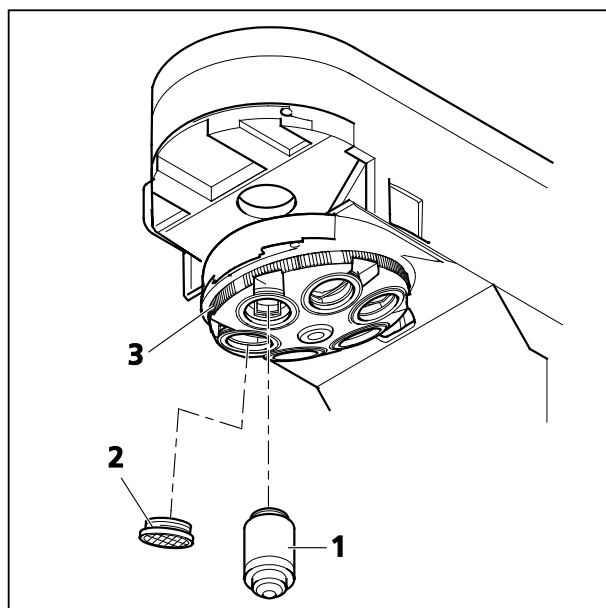

Fig. 17 Screwing in objectives
- Remove dust covers (Fig. 17/2) from the respective openings on the objective nosepiece.
- Remove objectives (Fig. 17/1) from the case and screw them into the nosepiece (Fig. 17/3) starting with the lowest magnification (clockwise rotation).